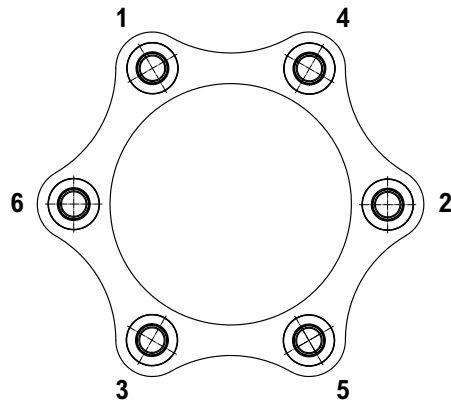

Figure 13
8.13 Slightly tighten all locknuts using an alternating progressive pattern on each disc pack as shown in Figures 13 and 14 making sure the disc pack is not distorted and all the bolts are fully seated. Tighten each locknut to the appropriate torque value shown in Table 6, using an incremental torque in a progressive alternating pattern as shown in Figures 13 and 14.